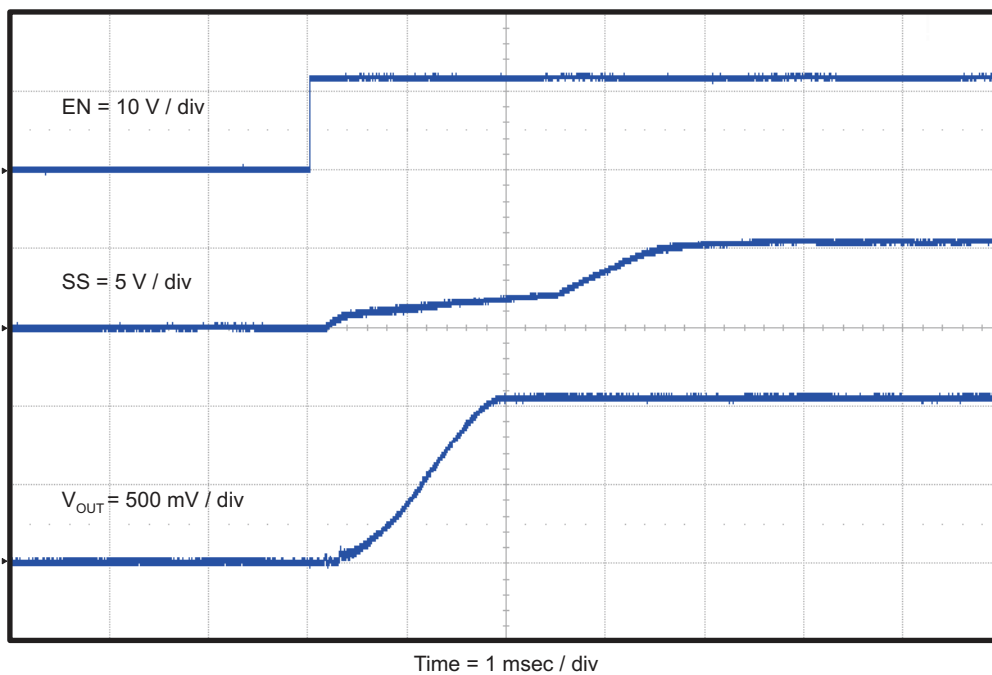
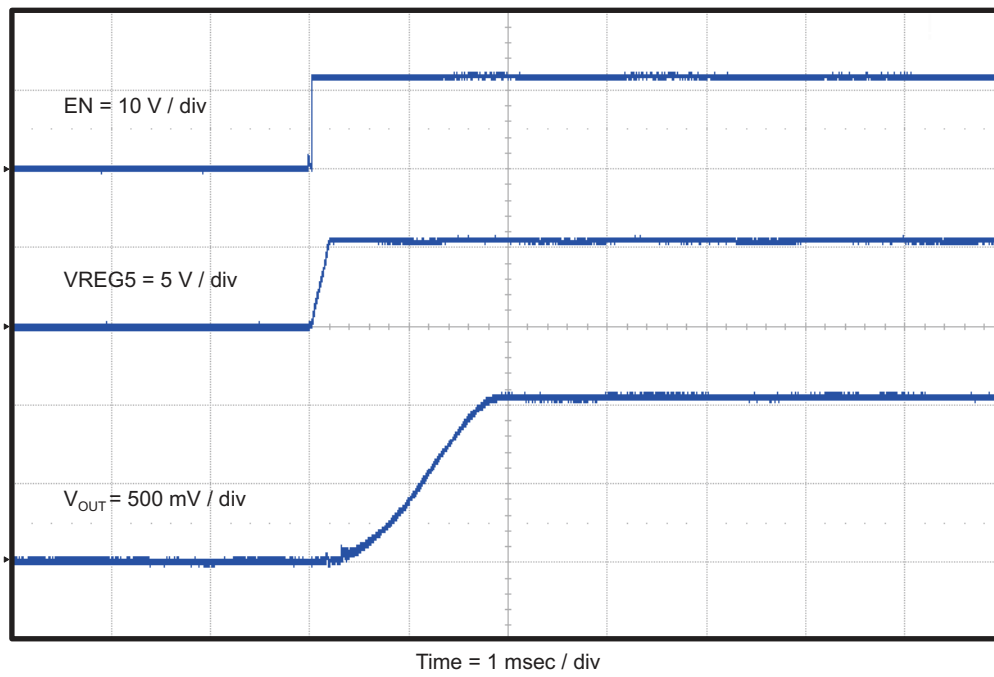

Figure 4-10. TPS54527EVM-052 Start-Up Relative to EN With SS
Figure 4-11. TPS54527EVM-052 Start-Up Relative to EN With VREG5
The TPS54527EVM-052 start-up waveforms relative to enable (EN) are shown in Figure 4-10 and Figure 4-11.